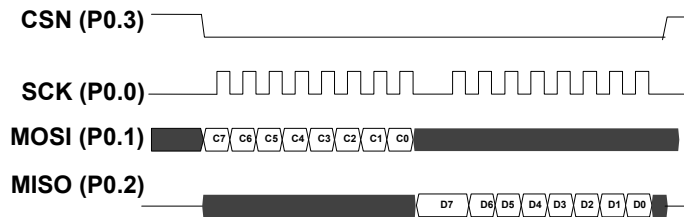
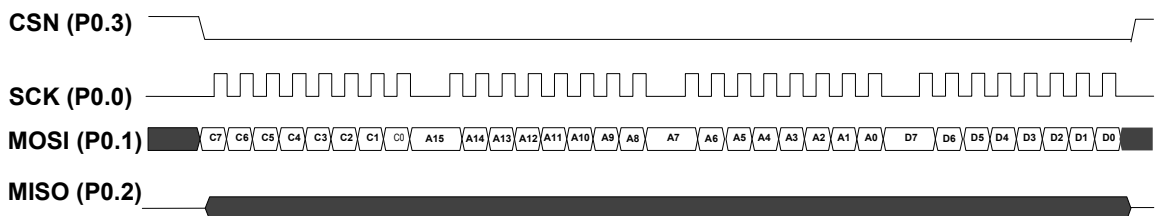

Figure 71. SPI read command without address
Figure 74. SPI flash write operation, shown with 1 databyte
An SPI command always starts with the external master sending a command byte to the flash slave, followed by a variable number of address and data bytes. The number of address and data bytes are specific to each command, as shown in Table 121. on page 145. In Figure 71. to Figure 74. Cn is the SPI command bit, An is the address bit and Dn is the data bit (note: MSBit in each byte first). After CSN is deactivated, a flash write or erase command requires the chip to do the flash programming or erase, and this will take some time to complete therefore, it is advised not to issue a new command until the specified amount of time has elapsed. Alternatively, you can repeatedly issue RDSR commands until the `FSR.RDYN` bit reads back as 0.
The SPI command RDSR reads out the content of the flash status register FSR, and consists of 1-command byte and 1-data byte as shown in Figure 71. on page 146. By keeping the CSN line active after the first data byte, FSR will be repeatedly re-read until CSN is set inactive.
3. The `PROGRAM` command is sent on the MOSI line followed by the two-byte address (address of the first byte) and the data to be programmed/ written, as shown in Figure 74. on page 146.
The SPI command RDFPCR reads out the content of the flash project configuration register FPCR, and consists of 1 command byte and 1 data byte as shown in Figure 71. on page 146.